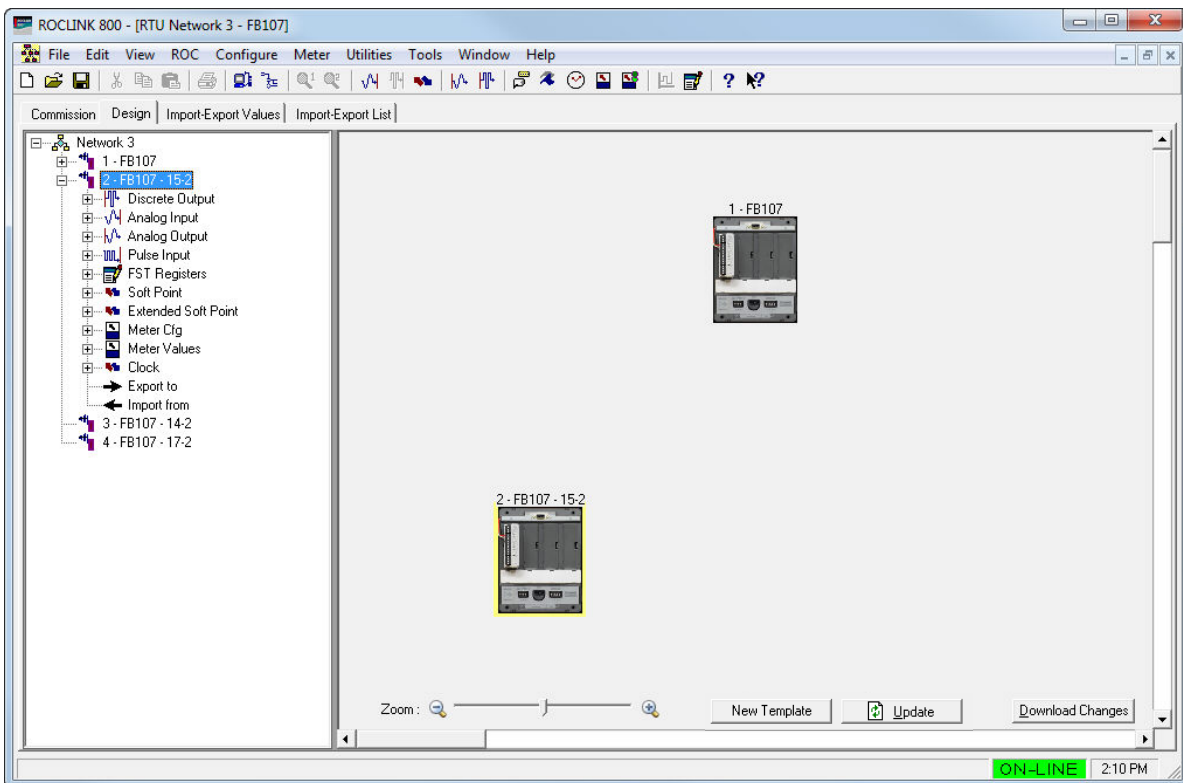

Figure 3-18. NAP and Node in Design Workspace
3. A network must have a NAP and at least one node. Left-click one of the nodes in the device tree and drag it onto the workspace (see *Figure 3-18*). Because the node is now the currently selected device, it has the yellow border. The program has also closed the device tree for the NAP and opened the device tree for the selected node.